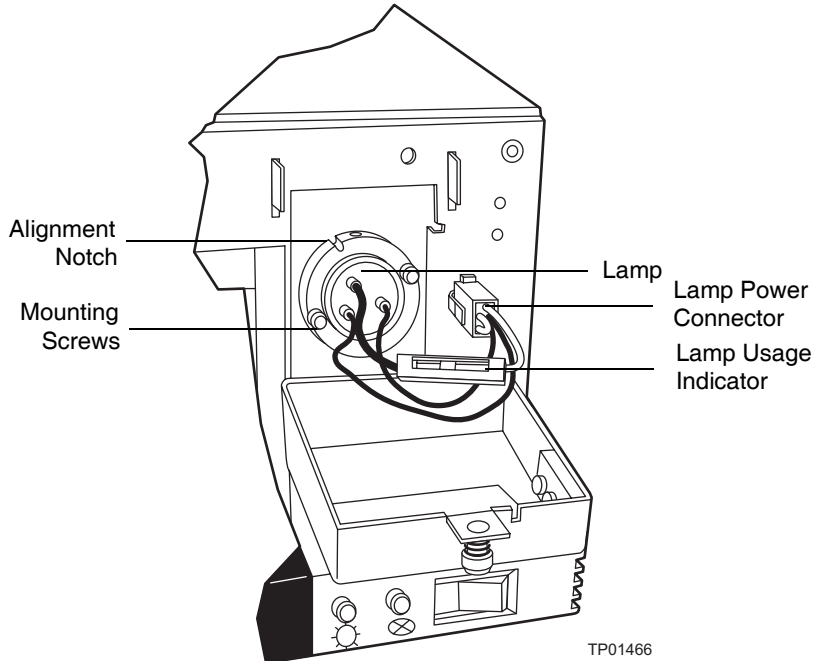

Figure 3-4 Lamp Power Connector and Mounting Screws
9. Reconnect the lamp power connector (Figure 3-4).